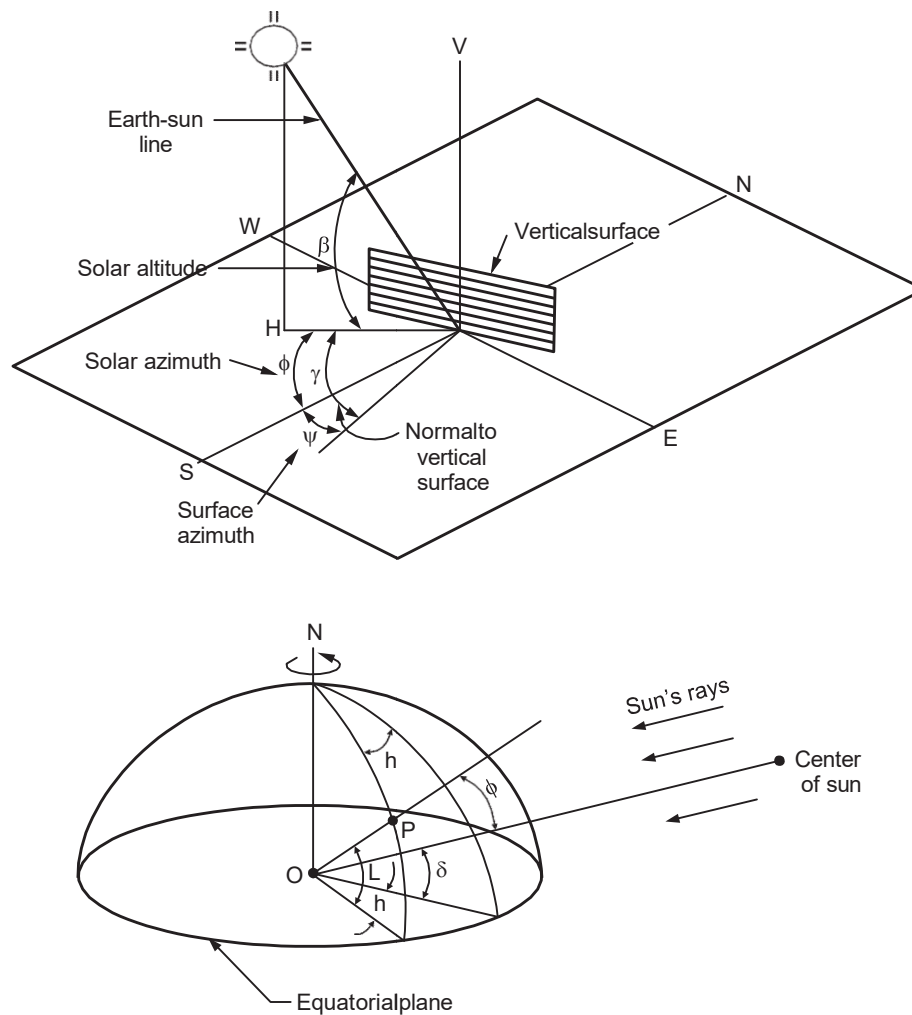

Fig. 2.3.2 : Solar radiation geometry
- The variation of the solar declination angle throughout the year is shown in Fig. 2.3.2 (See Fig. 2.3.2 on next page).